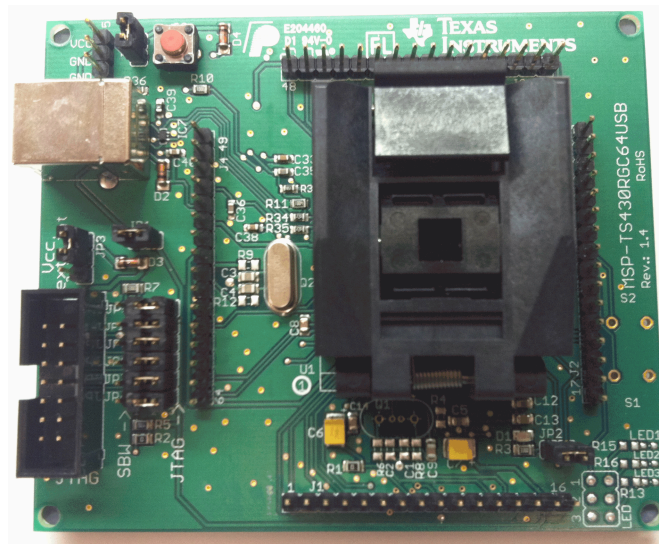

Figure 4. MSP-TS430RGC64USB Jumper Settings
14. The MSP430 target board jumper connections can be seen in Figure 4.